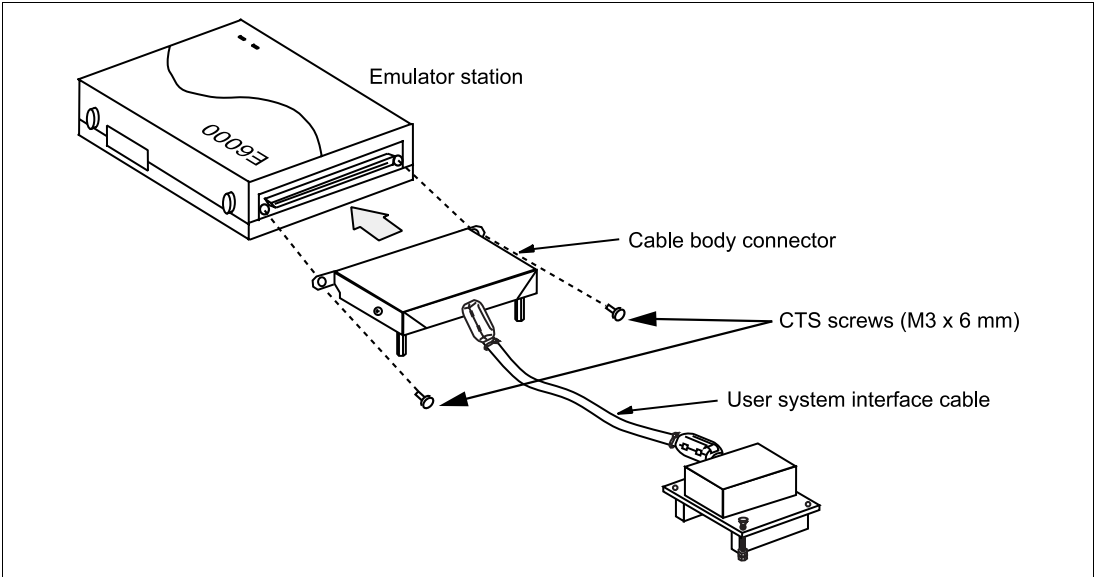

Figure 2 Connecting User System Interface Cable to Emulator Station
2. After making sure the direction of the cable body connector is correct, firmly insert the cable body connector into the emulator station socket, and fasten the emulator station with two CTS screws (M3 x 6 mm). (figure 2)